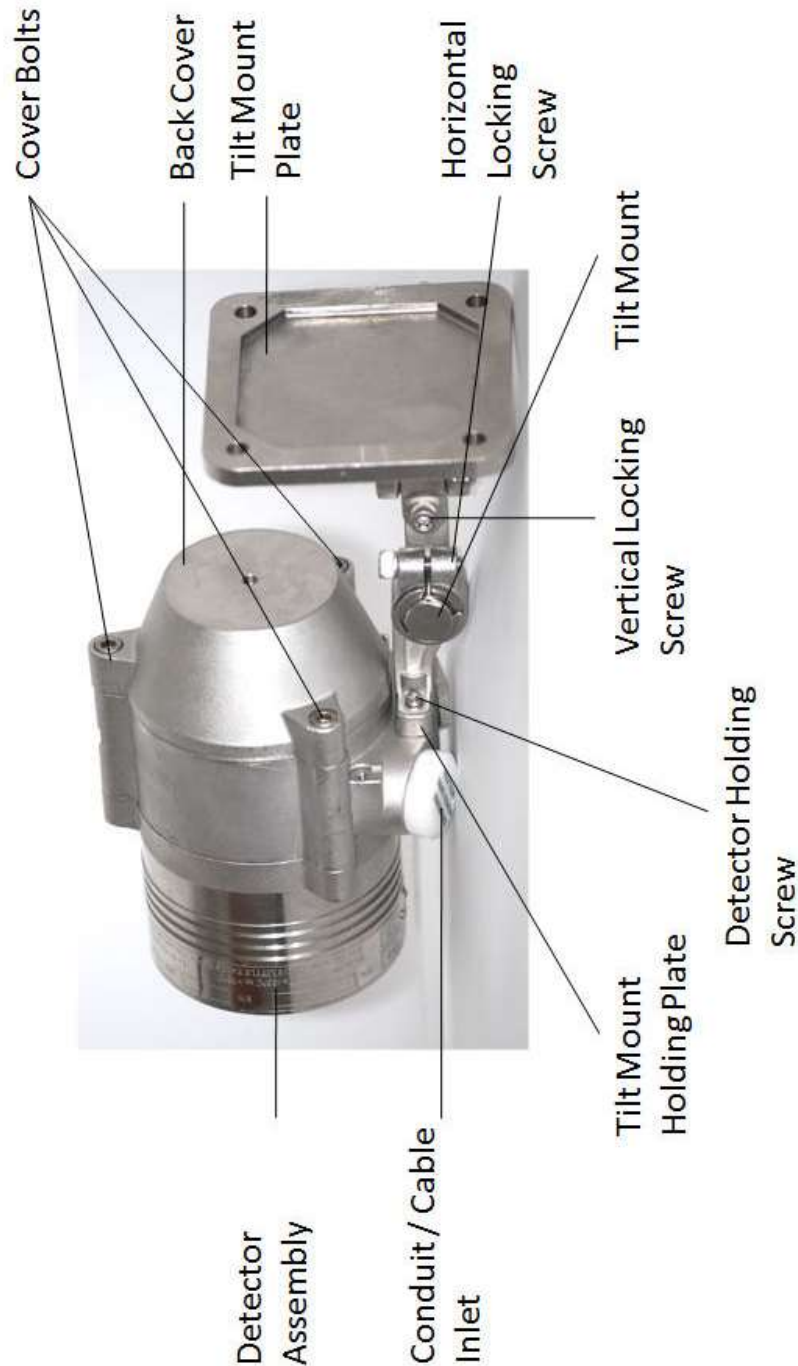

Figure 4: Detector with Tilt Mount
Figure 4 shows the detector mounted on the tilt mount.
- 9 Place and secure the detector's back cover by screwing the 3 socket-head-screws in the cover bolts (Figure 4).